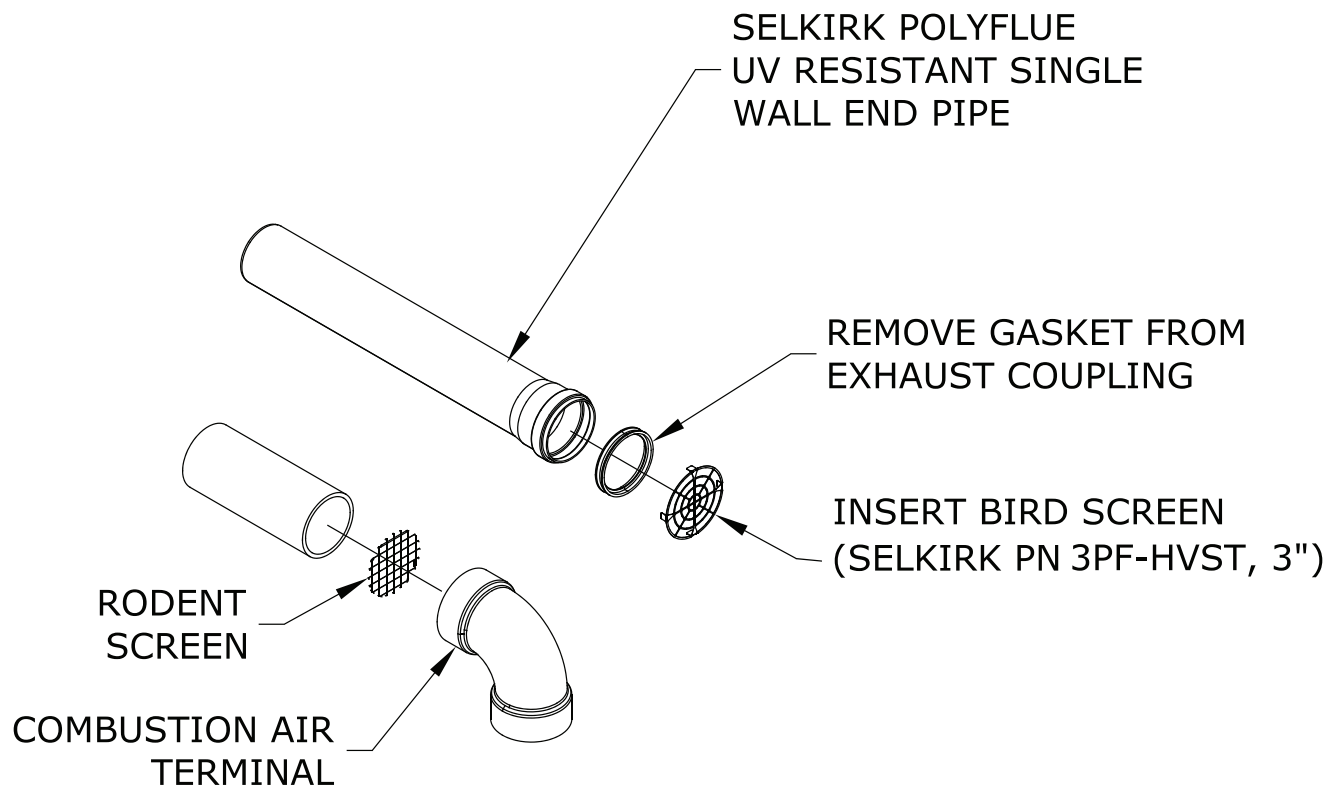

Figure 7.42: Installation of Selkirk Polyflue UV Resistant Single Wall Horizontal Terminal
- a. See Figure 7.42 for proper orientation of twin pipe horizontal terminals. Outer edge of exhaust coupling must be 10" or less from the wall surface. (Figure 7.9)